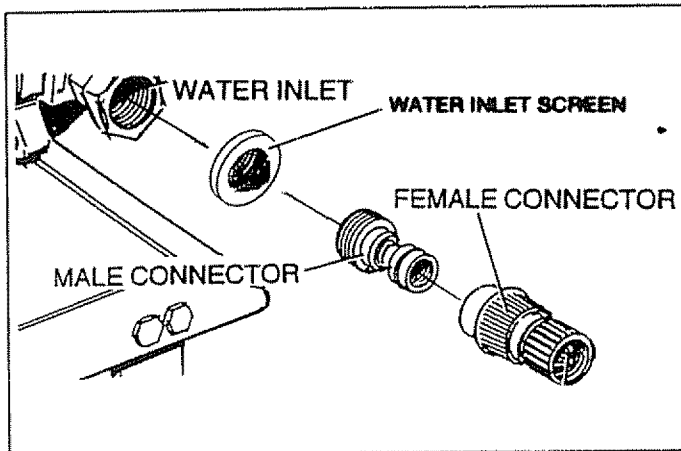

FIG. 5
- Included with this unit is a Quick-Connect fitting you attach to Water Inlet on pump. The quick-connect includes two parts — a Male Connector factory-installed on water inlet and a Female Connector (Fig. 5).